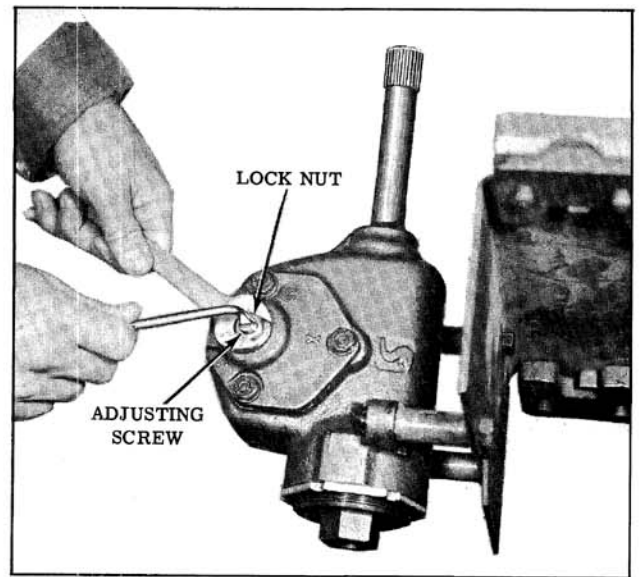

Fig. 8-10 Over-Center Adjustment
- After making the worm bearing adjustment, the pitman shaft adjusting screw should be tightened until a pull of 4 to 10 inch pounds in excess of worm bearing pre-load is required to turn the wheel through the center range. (Approximately 2-7/8 turns from either end of travel on car or 3-1/8 turns for bench adjustment) (Fig. 8-10) Tighten the locknut to 27 ft. lbs. and recheck the over-center adjustment.